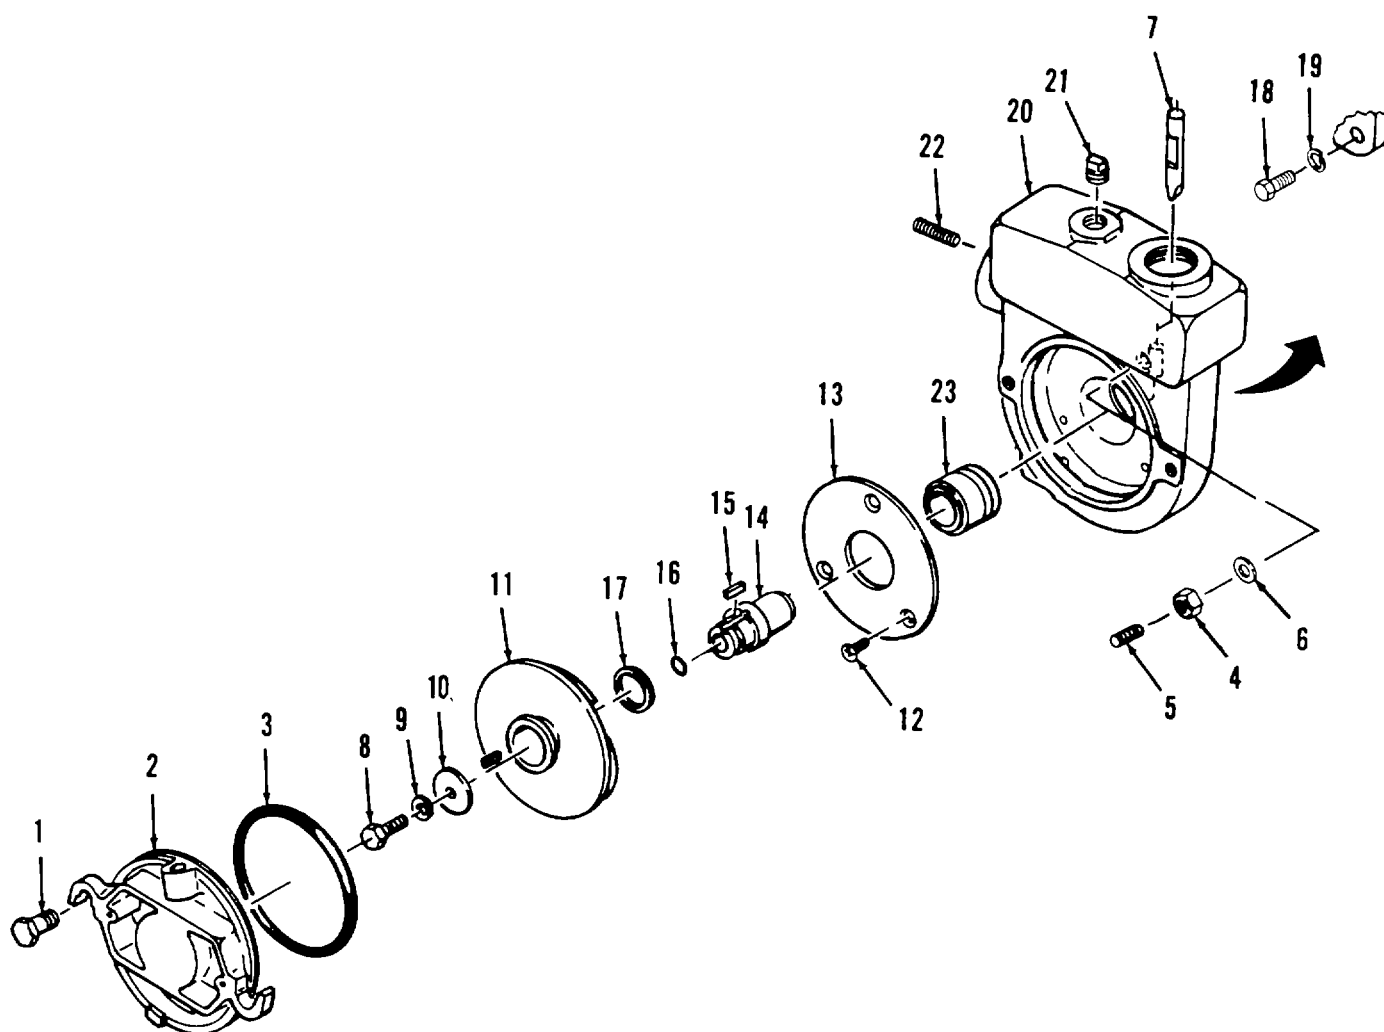

Figure 4-17. Pump Assembly Repair and Replacement.
a. Removal. (Refer to Figure 4-17).
- (1) Remove two shoulder bolts (1), cover plate (2), and packing (3). Discard packing.
- (2) Remove nut (4), setscrew (5), and plastic washer (6).
- (3) Remove peeler (7) from pump.
- (4) Remove screw (8), lock washer (9), and washer (10). Discard lock washer.